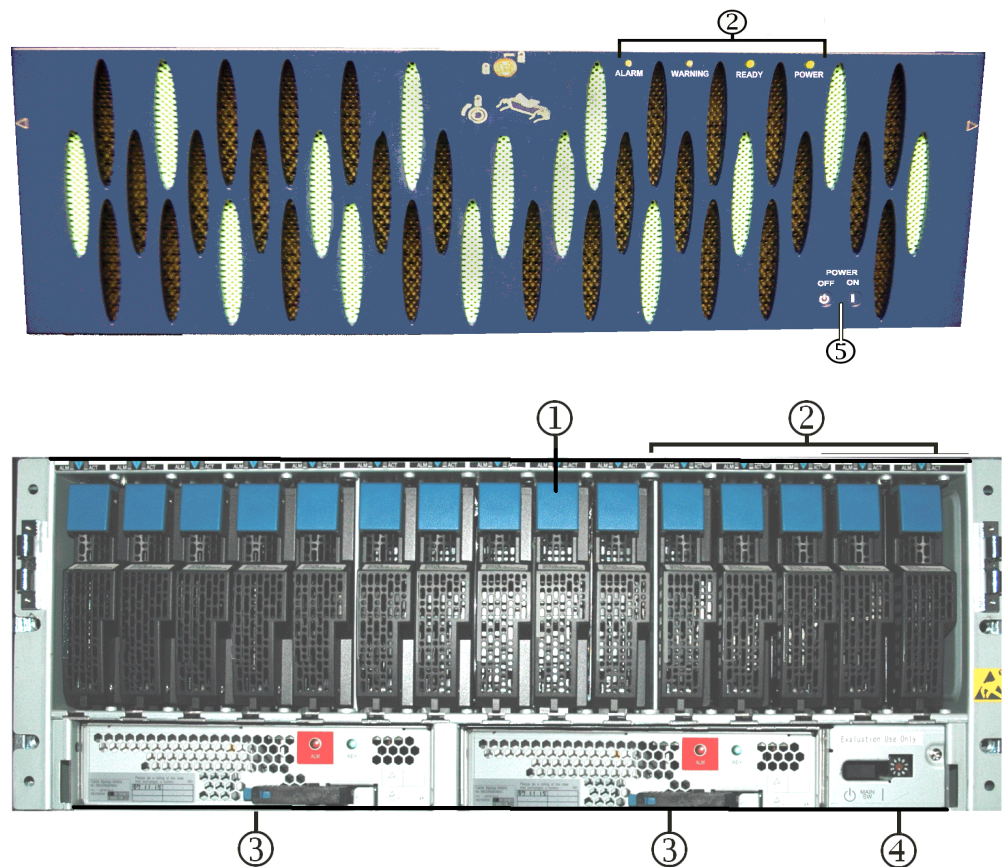
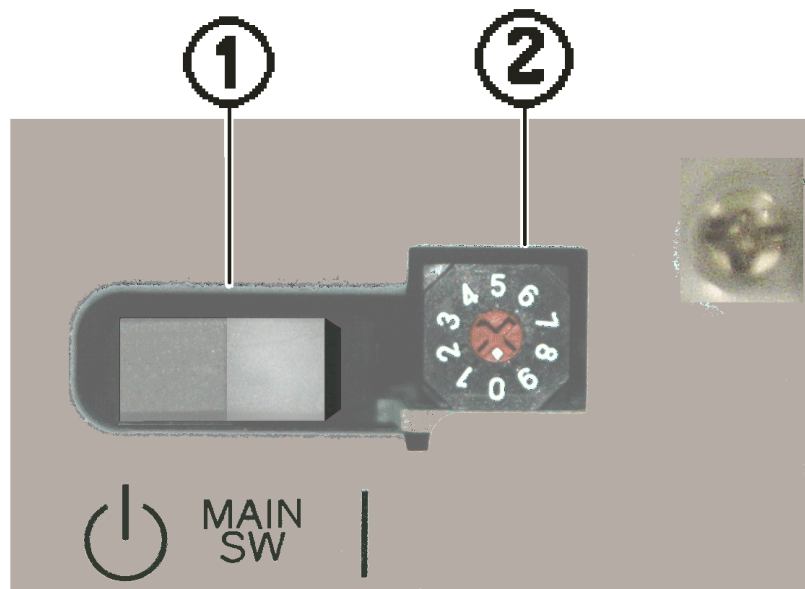

Figure 4-1: AMS 2100 Base Unit Front View
Figure 4-5: Base Unit Switch Panel
As shown by item #1 in Figure 4-1, an AMS 2100/2300 has 15 drive slots in the front of the array. Each slot can accommodate one SATA drive or one SAS drive.
The AMS 2100 and AMS 2300 base units include two cache backup batteries. See items #3 and #4 in Figure 4-1 on page 4-2. Two fully charged batteries can preserve the data in the cache for 24 to 72 hours, depending on the size of the cache and the amount of data in it. See Cache management in Chapter 1 for details.
The base unit switch panel is located at the lower right corner of the front of the array. See item #5 in Figure 4-1 on page 4-2. The panel contains a power on-off switch and a mode switch, as shown in Figure 4-5.
①	Power Switch (labeled Power ON on the front bezel and labeled Main SW on the switch panel). As shown in Figure 4-5 , the power ON/OFF switch is labeled MAIN SW . • To turn the array power ON, press the right side of the switch (labeled). • To turn the array power OFF, press the left side of the switch.
②	Mode Switch Sets the Uninterruptable Power Supply (UPS) mode to either Local Mode or one of three remote modes. Leave this switch in the local mode (0) position.